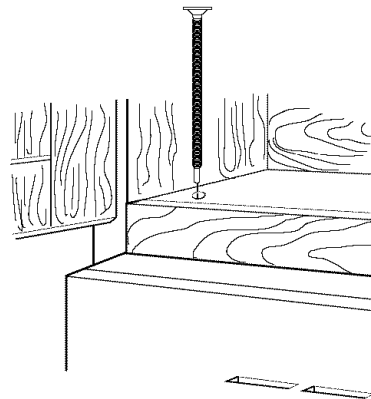

Figure 31
3. Insert a bolt down through each hole in the upper cabinet bottom. See Figure 31. Tighten the bolts until the gap between the upper cabinet and microwave oven is closed.